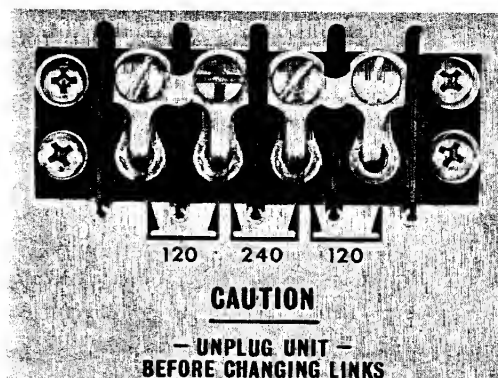
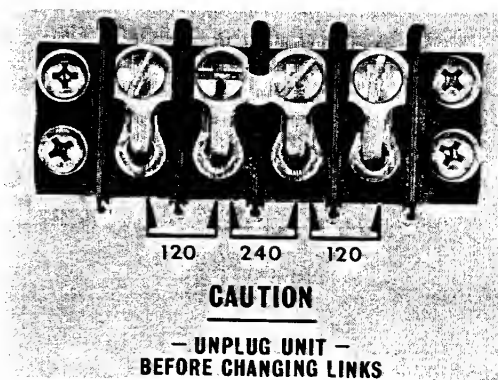

FIGURE 5A
FIGURE 5B
2. To convert from 120 V AC to 240 V AC, remove the two terminal strip jumpers, Figure 5A. Install one jumper only, per Figure 5B.